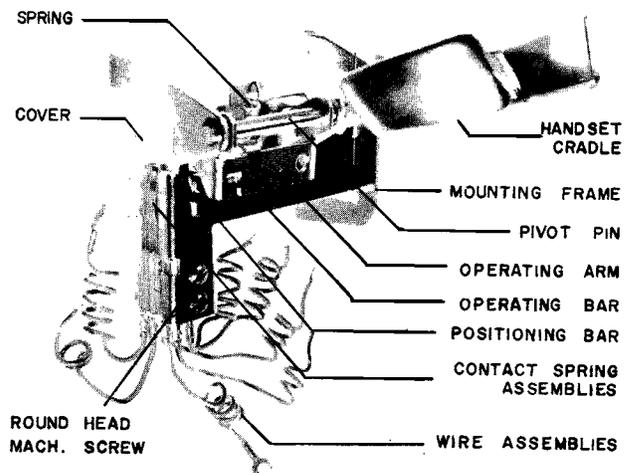

Fig. 2-1 TYPICAL HOOK SWITCH
2.1 The various parts of a typical hook switch assembly are identified in Fig. 2-1.